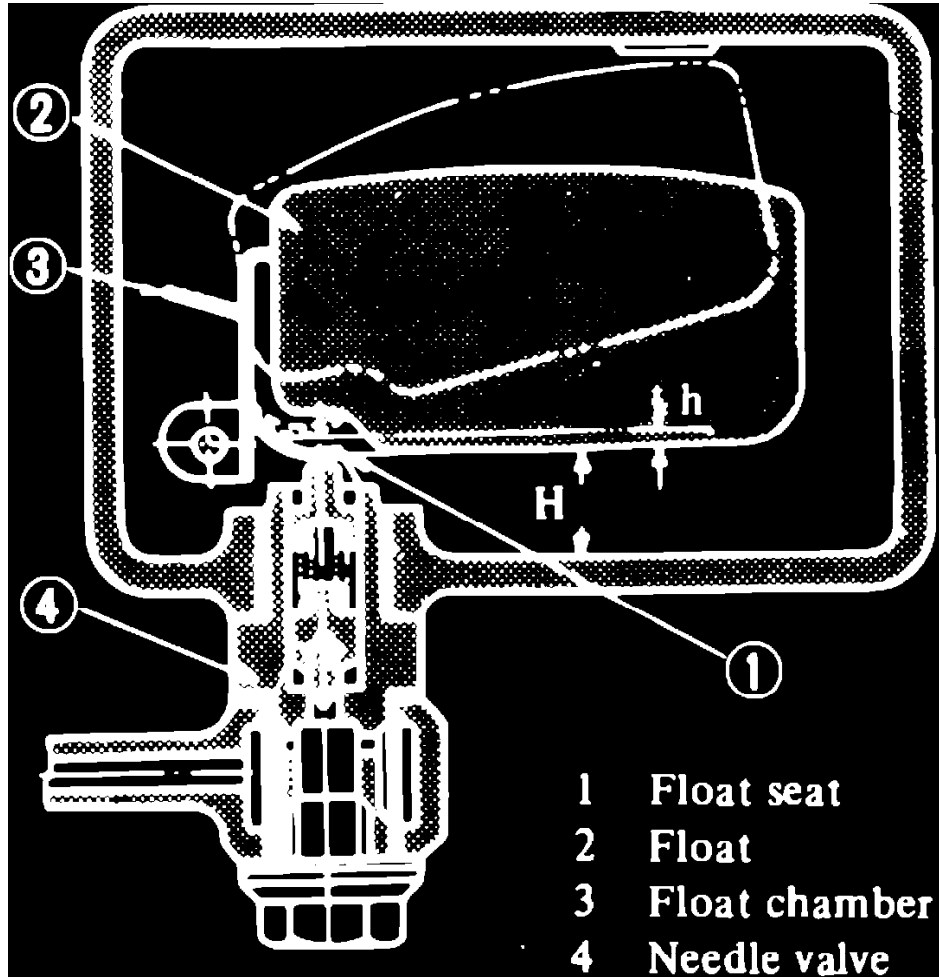

Fig. 10 Float level adjustment.
2. Invert float chamber to allow float to come into contact with needle valve, and measure clearance ``H," **Fig. 10**. Clearance should be as listed in the specifications chart. The top float position can be adjusted by bending float seat.
3. Adjust bottom float position so that clearance ``h" between float seat and needle valve stem, **Fig. 10**, is as listed in the specifications chart when float is fully raised. Bend float stopper as required.